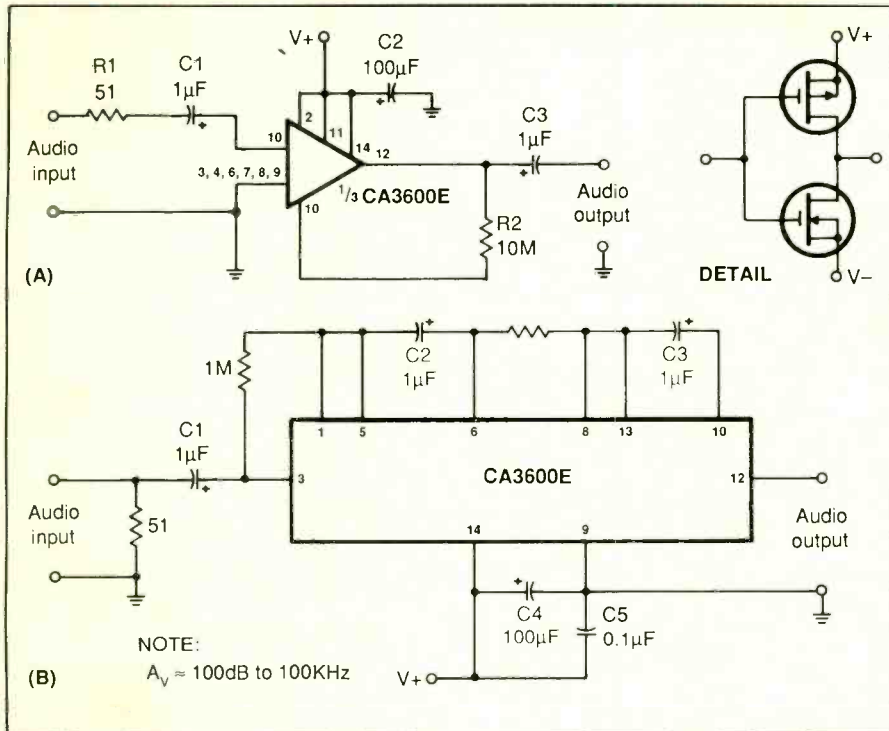

Fig. 8. Single- (A) and multiple-stage (B) general-purpose preamplifier circuits suitable for use in hi-fi applications.
Two general-purpose preamplifiers based on RCA's CA3600E IC are shown schematically in Fig. 8. The CA3600E is a complementary COS/MOS transistor array device. Single- and multiple-stage designs are shown in Fig. 8(A) and (B), respectively. The internal transistor array equivalent for one transistor pair is shown in the inset in Fig. 8(A). This design
Figure 8(B)'s multi-stage design is capable of gains up to 100 dB at frequencies up to 1 MHz, assuming a 10-volt dc supply (gain drops to 80 dB when a +15-volt supply is used). This gain and frequency response are very useful in audio and other applications. However, it must be approached with caution when you actually build the circuit. Be sure to keep the power supply decoupling capacitors as close as possible to the body of the IC.
Unless a preamplifier stage with a higher impedance is provided, the 50-ohm input impedance of the Fig. 8(B) circuit takes this amplifier out of the audio-amplifier category because audio amplifiers expect to "see" higher impedances.